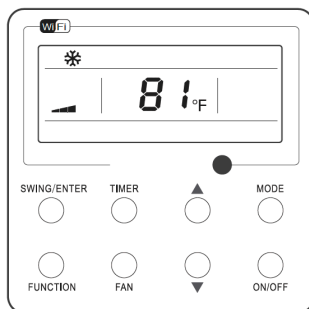

Fig.6
- Press ▲ or ▼ to increase/decrease the preset temperature. If either is pressed continuously, the temperature will be increased or decreased by 1°F(1°C) every 0.5s, as shown in Fig.6.